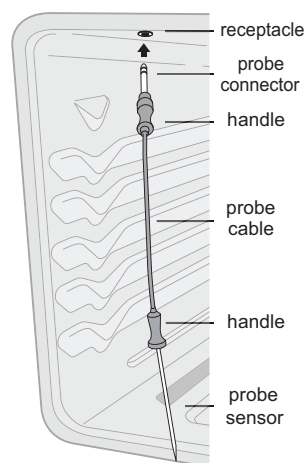

Figure 25: Probe receptacle insertion
The probe receptacle is located at the top of the oven cavity as shown in Figure 25.
Handle the meat probe carefully when inserting and removing from food or probe receptacle. Do not use kitchen utensils, such as tongs, to pull on meat probe cable when inserting or removing from food or receptacle. Use the provided handle, as shown in Figure 25. To avoid possibility of burns after cooking, carefully unplug meat probe using a pot holder to protect hands.
2. Plug the meat probe into the probe receptacle located on the top of the oven cavity (Figure 25).